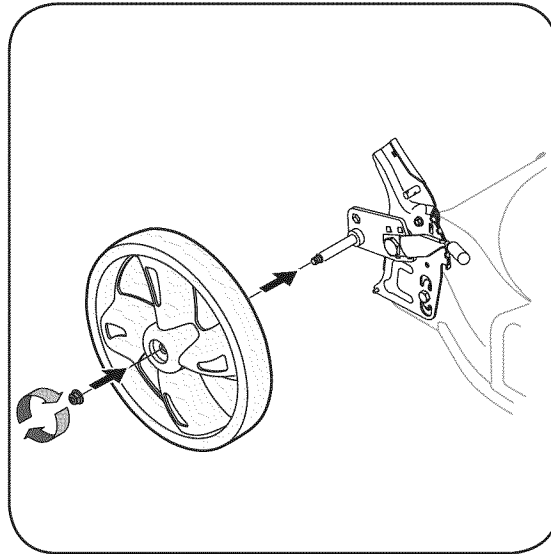

Figure 3-1: Attach wheels.
- b. Remove lock nut and washer (if equipped) from pivot arm assembly, Figure 3-1. (On select models, these may be included separately in a plastic bag).
- c. Slide washer (if equipped) followed by the wheel (both with hollow side in) onto pivot arm. See Figure 3-1.